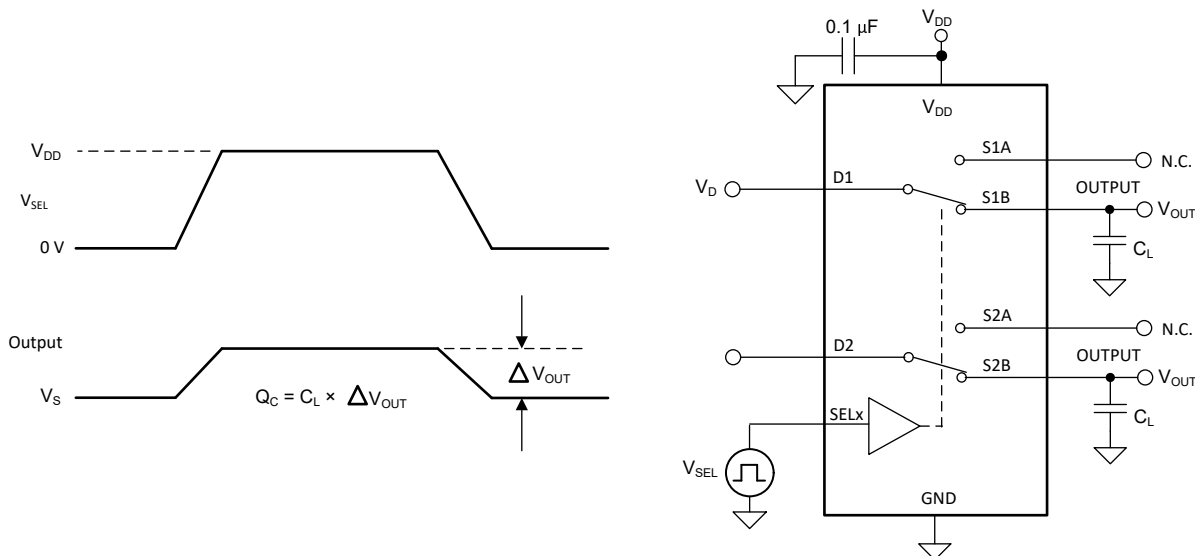

Figure 6-11. Charge-Injection Measurement Setup
Any mismatch in capacitance results in a charge injected into the drain or source during the falling or rising edge of the gate signal. The amount of charge injected into the source or drain of the device is known as charge injection, and is denoted by the symbol  $Q_C$ . Figure 6-11 shows the setup used to measure charge injection from Drain (D) to Source (Sx).